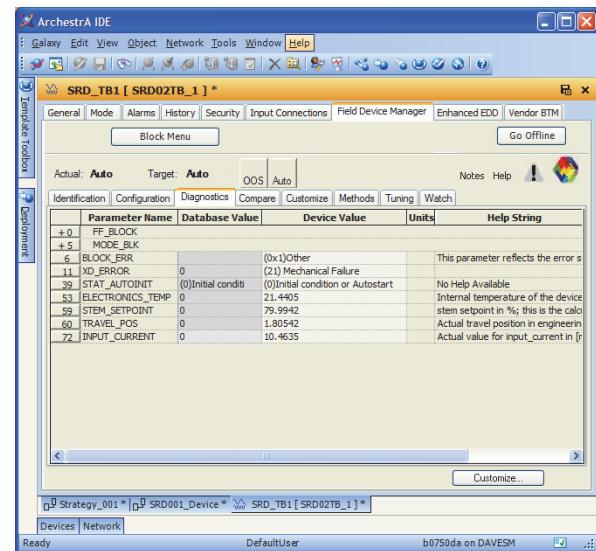

Figure 11. Transducer Block Diagnostics Tab
- ▶ The Diagnostics tab (Figure 11) is an on-line, continuously updating screen showing the most recent data values from the device.